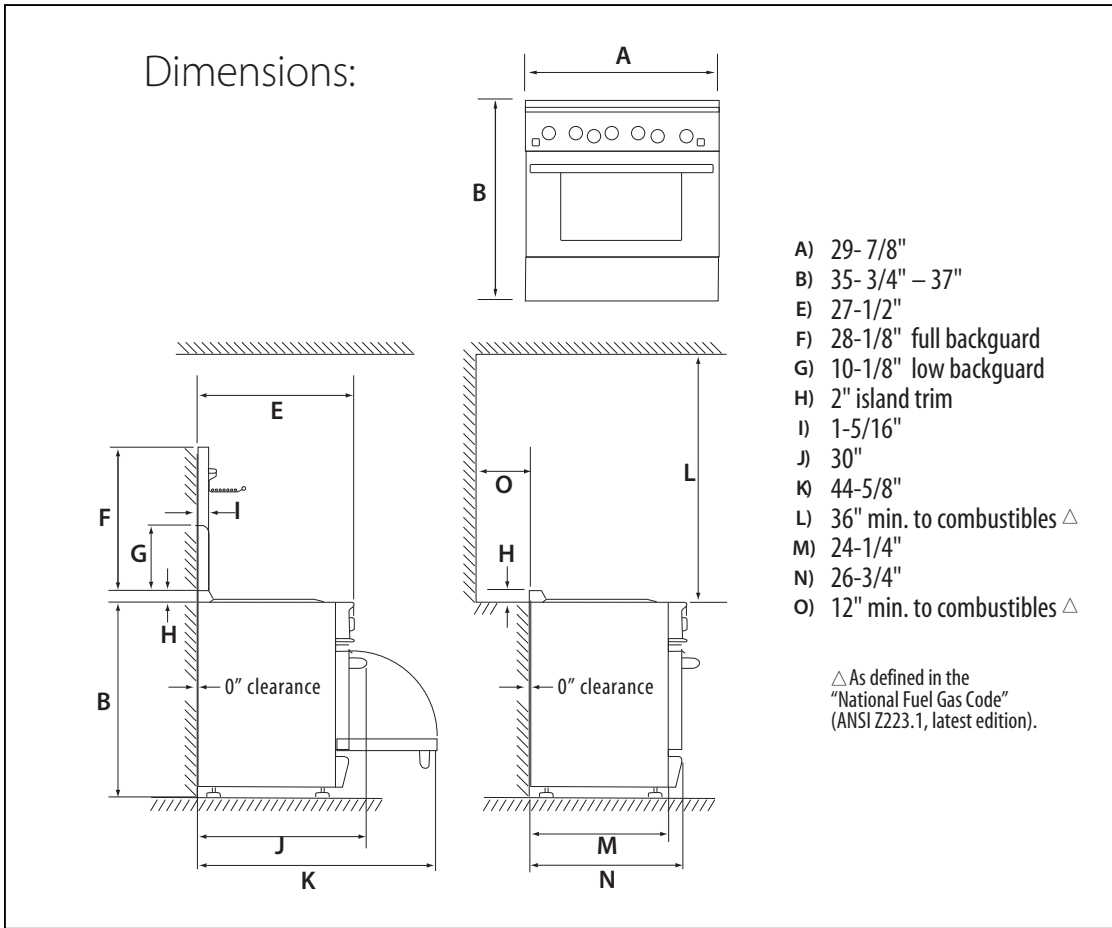
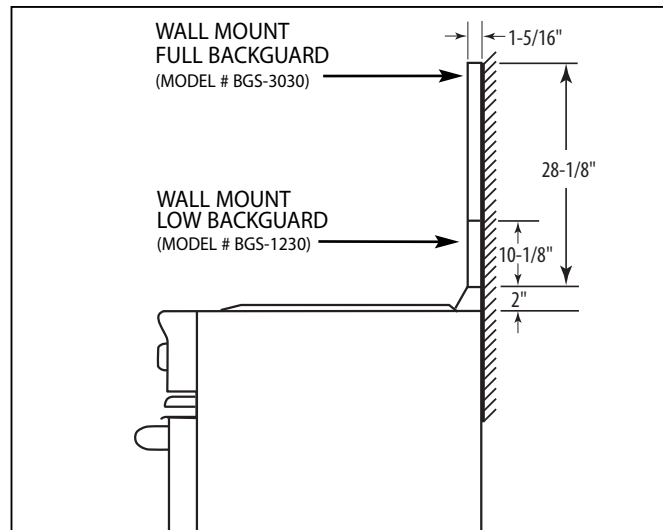

Fig. 14
Fig. 15
6. When there is less than a 12" clearance between combustible material and the back edge of the range, (above the cooking surface) a DCS Low backguard or Full backguard must be installed (See Fig. 14). The range comes equipped with island Trim as standard. Fig. 14 indicates the space required for each type of backguard.
The backguard is located as shown in Fig. 15. Secure the backguard to the wall behind the range. Specific instructions for installation of the full backguard or low backguard can be found packaged with the backguard. See also page 8, "Planning The Installation" section. A backguard must be installed when there is less than a 12" clearance between combustibles and the back of the range (above the cooking surface). See Fig. 14. DCS backguards are sold separately.